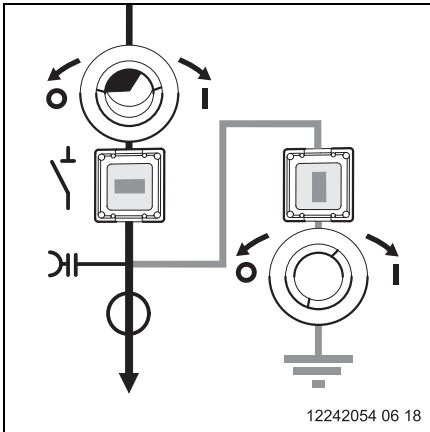

Fig. 43
**1** Switch position with deactivated disconnecter and activated earthing switch (Fig. 43),